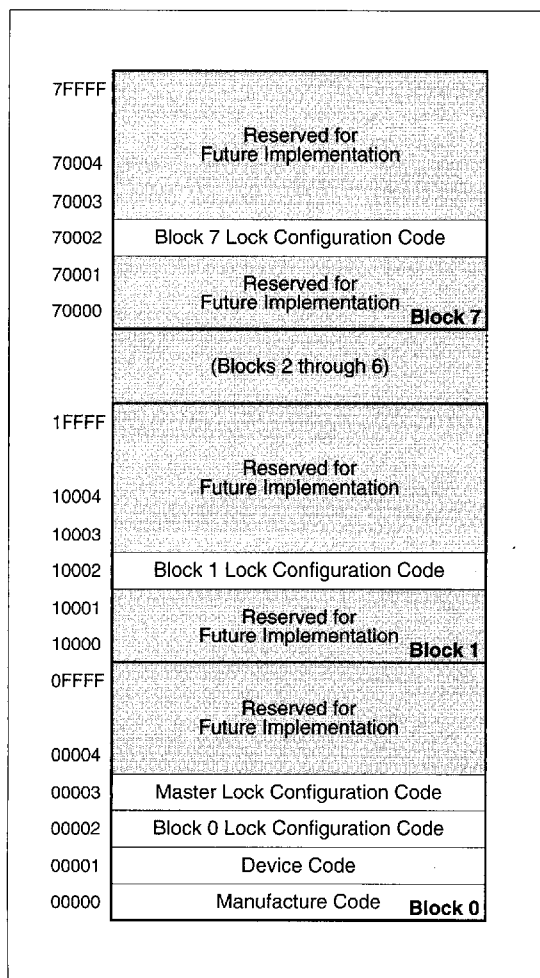

Fig. 2 Device Identifier Code Memory Map
The read identifier codes operation outputs the manufacture code, device code, block lock configuration codes for each block, and the master lock configuration code (see **Fig. 2**). Using the manufacture and device codes, the system CPU can automatically match the device with its proper algorithms. The block lock and master lock configuration codes identify locked and unlocked blocks and master lock-bit setting.
IA = Identifier code address : see **Fig. 2**.
The identifier code operation is initiated by writing the Read Identifier Codes command. Following the command write, read cycles from addresses shown in **Fig. 2** retrieve the manufacture, device, block lock configuration and master lock configuration codes (see **Table 4** for identifier code values). To terminate the operation, write another valid command. Like the Read Array command, the Read Identifier Codes command functions independently of the VPP voltage and RP# can be VIH or VHH. Following the Read Identifier Codes command, the following information can be read :
1. X selects the specific block lock configuration code to be read. See **Fig. 2** for the device identifier code memory map.